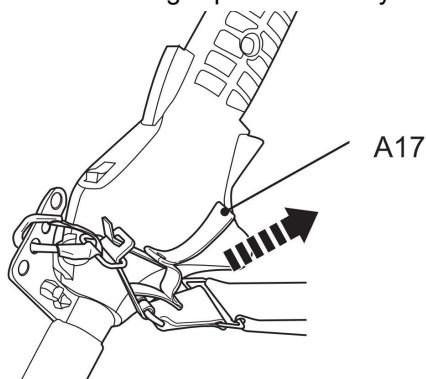

Fig. 34
5. In case of emergency, hold the front handle (A27) with the left hand, and use the right hand to pull the rope (A17) (Fig. 34). The metal locking bar will be released from the securing clip automatically because of the weight of the product.